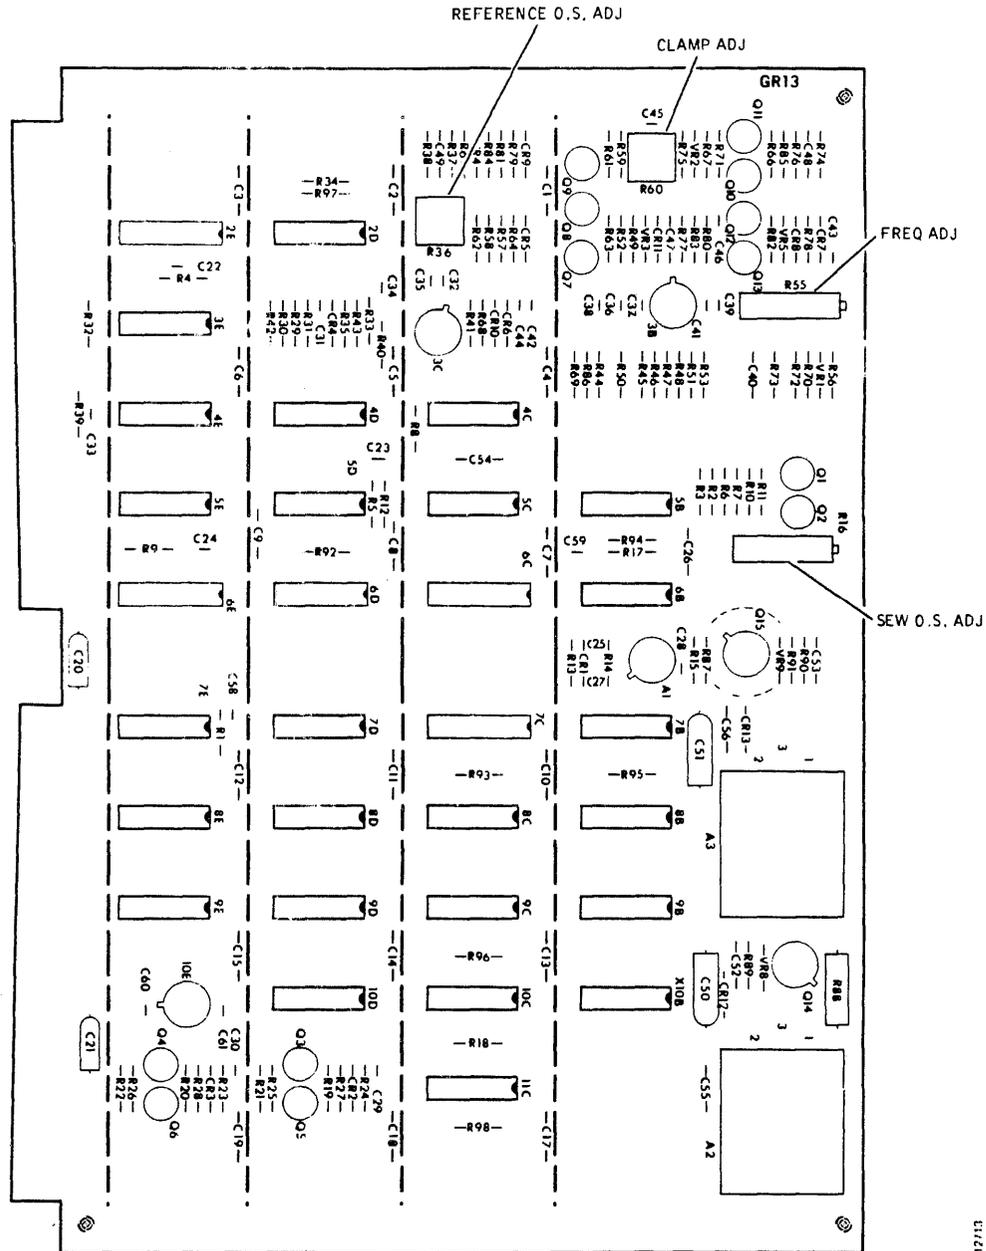

Figure 3-19. Data Separator Adjustment Point Locations (T25, T50)
This procedure is applicable only to the GR13 type Data Separator card used in most Model T25 and T50 Disk Drives. All adjustment points are located on this card, which occupies slot 4 in the card cage. Some of the adjustments are interactive, making it necessary to perform all steps in the alignment procedure. These should be done in the order given. See Figure 3-19 for adjustment point locations.
10. If the Channel 2 waveform is unstable or no longer locked in step with Channel 1, load heads and adjust potentiometer R36 (Figure 3-19). The pulse duration observed after adjustment should be 25 ± 2 nanoseconds. If adjustment cannot be met, Data Separator card must be replaced.